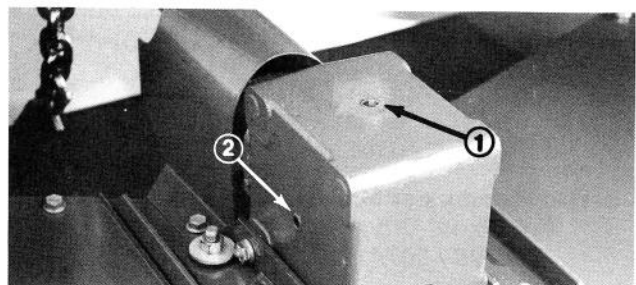

Figure 17
2. Remove check plug from side of gear box (Fig. 17) and make sure lubricant is up to bottom of hole. If level of lubricant is low, add enough lubricant to bring it up to bottom of check hole.